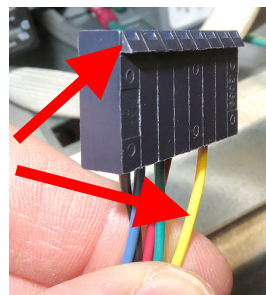
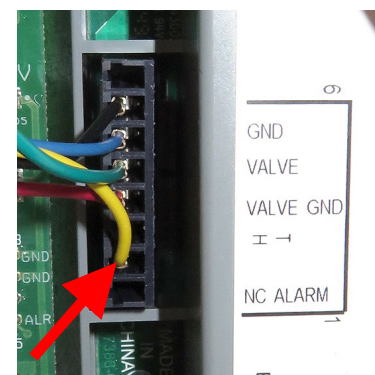

Figure 15
Figure 16
18. Attach the sense wires to both modules (see Figure 15). Ensure the correct sense wire is connected to the correct module.
19. Locate the module harness with the yellow wire (see Figure 15).
20. Attach the harness in previous step to the right module (see Figure 16). The harness is attached to the module with the bevel (shown in Figure 15) toward the center of the module.